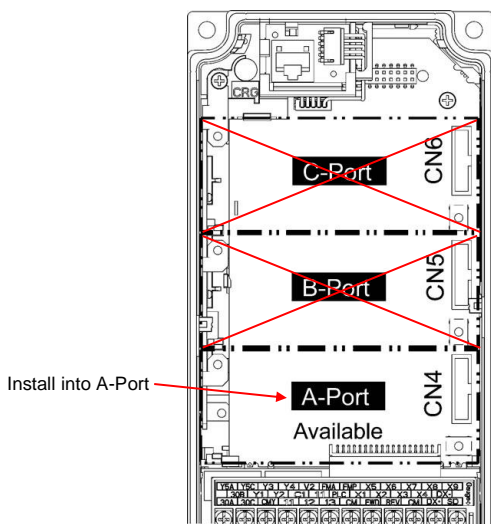

Figure 4: Option Port Locations on 0.4 kW Inverter
1. Remove the front cover from the inverter to expose the control printed circuit board (control PCB). As shown in Figure 4, there are three option connection ports (A-port, B-port and C-port). The card is mechanically keyed for, and can only be installed into, the A-port (bottom-most) position.